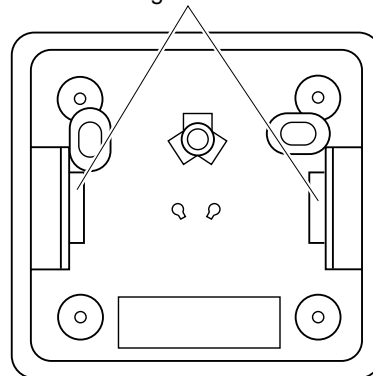

Figure 37 - Back View of Thermostat Base
6. Feed the electrical wires through the rectangular slots (from the back) on each side of the base (see Figure 37).